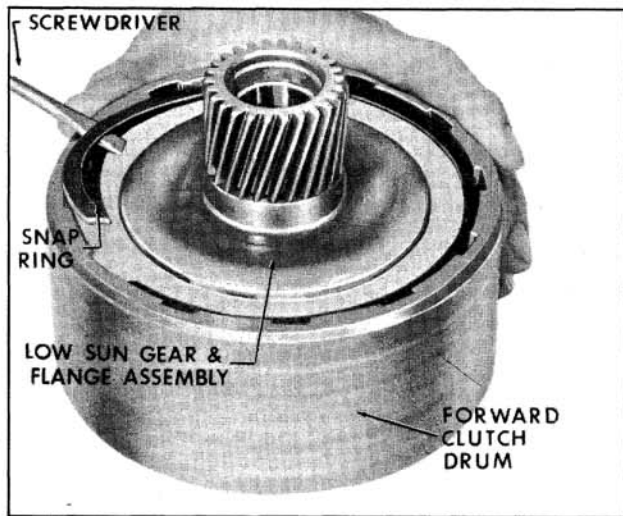

Fig. 6-452 Installing Snap Ring
12. Install low sun gear and flange assembly retaining ring. Position snap ring so gap is centered between slots in drum. (Fig. 6-452)